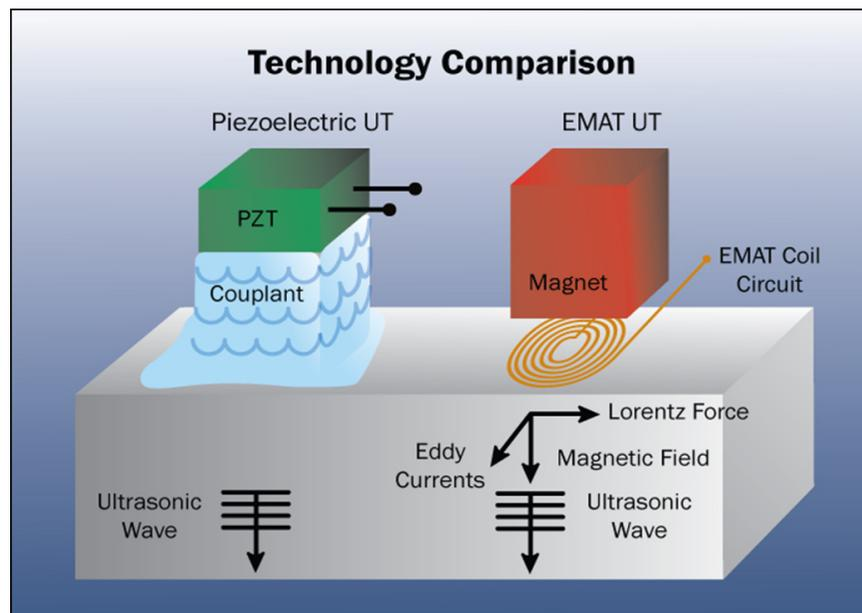

Figure 1 UT Technology Comparison
As a review, EMAT, or Electro Magnetic Acoustic Transducer, is an Ultrasonic Testing (UT) technique that generates the sound in the part inspected instead of the transducer. As illustrated in **Figure 1**, EMAT generates ultrasonic waves into a test object using electromagnetic induction with two interacting magnetic fields. A relatively high frequency (RF) field generated by electrical coils interacts with a low frequency or static field generated by magnets to generate a Lorentz force in a manner similar to an electric motor. This disturbance is transferred to the lattice of the material, producing an elastic wave. In a reciprocal process, the interaction of elastic waves in the presence of a magnetic field induces currents in the receiving EMAT coil circuit